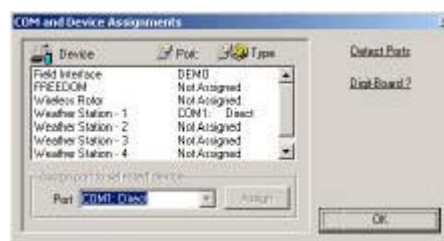

Figure 6 Test and Set Port
11. Assign port by clicking on **Test and Set Port** (see Figure 6)